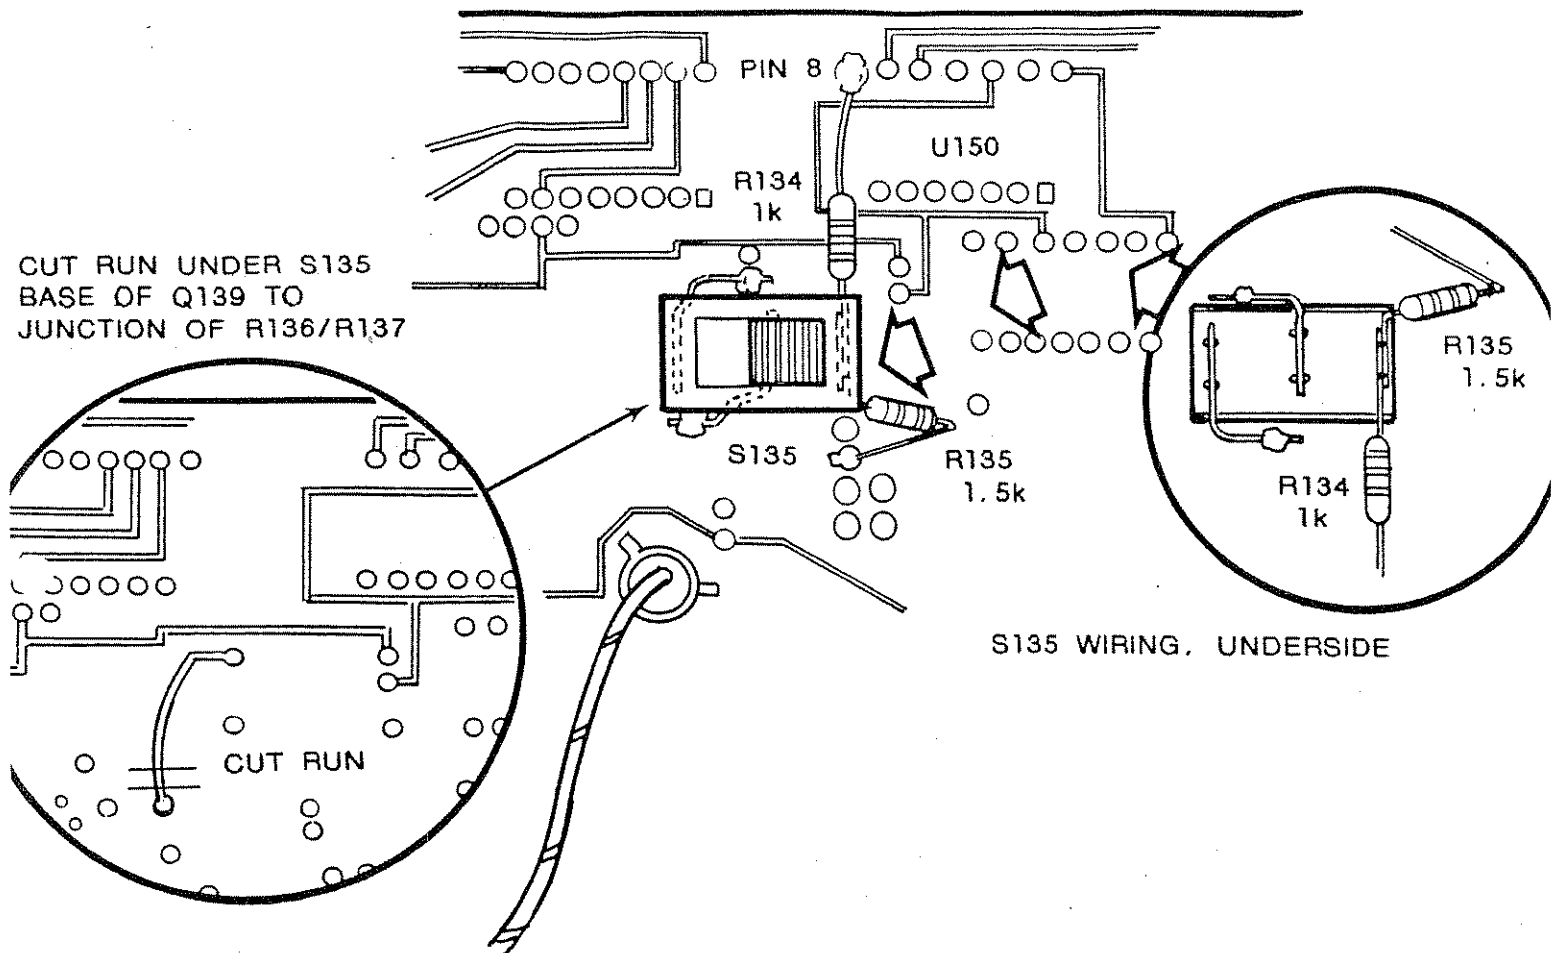

Fig. 1 - S135 Installation
- () 2. Cut the circuit board run (which will be beneath S135 when installed) as shown in Fig. 1.
- () 3. Install S135, R134 and R135 with the included bare wire as shown in Fig. 1 (as an aid to the rough location of the switch, see figure 1-1 in the included, supplementary Service Manual).